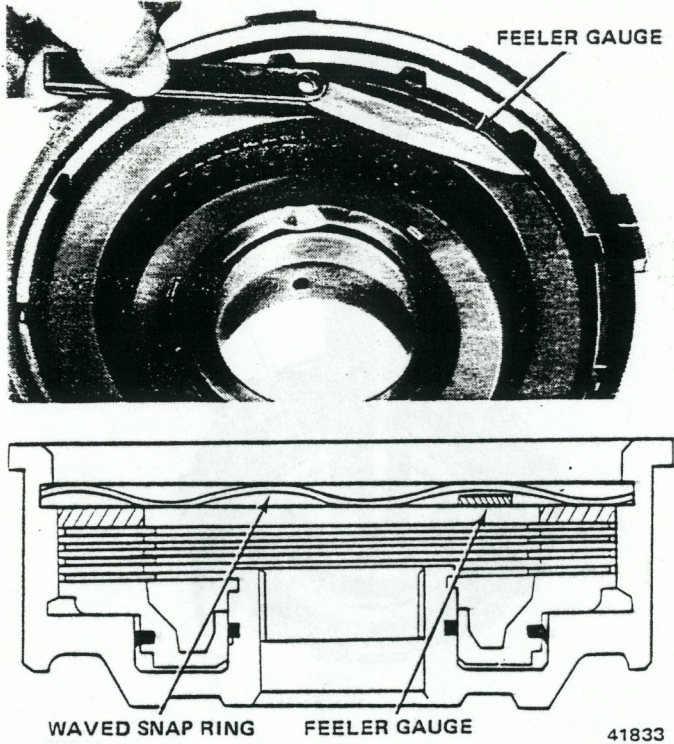

Fig. 2C-72 Measuring Front Clutch Pack Clearance
- (1) Remove large waved snap ring that retains pressure plate in clutch piston retainer (fig. 2C-73).
- (2) Remove pressure plate and clutch plates.
- (3) Install Compressor Tool J-24042 over piston spring retainer (fig. 2C-74).
- (4) Compress springs and remove snap ring.
- (5) Slowly release compressor tool until spring retainer is free of hub.
- (6) Remove compressor tool, retainer and springs.
- (7) Turn clutch retainer over and bump on wood block to dislodge and remove piston.
- (8) Remove seals from piston and retainer hub.